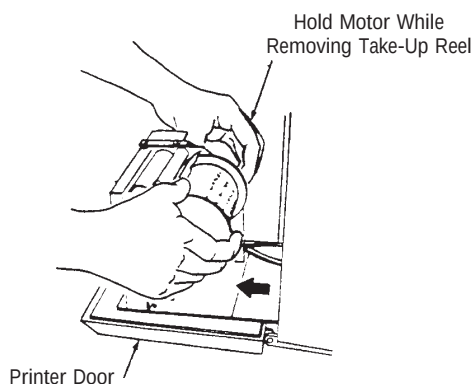

Figure 5-12
1. Pull out printer assembly (Figure 5-12).